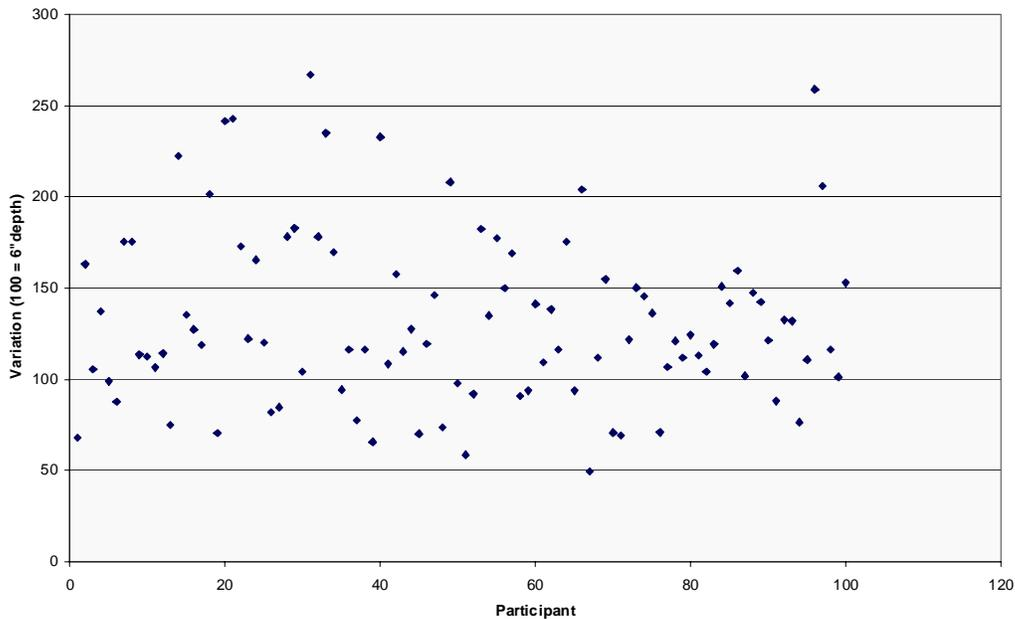

Figure 1. Variation in soil sample weight 15 cores to 6 inches.
Soil testing is the cornerstone of any fertility program. Soil test results help to estimating the availability of nutrients and the response to applied fertilizer. Having a history of fertility levels of a field can help determine the right rate. It is very important that the soil sample be taken correctly. In order for the sample to be useful, it must be taken so that is representative of the area being sampled. It also must be accurately taken so the test results can be properly interpreted. Soil sampling is the often the weakest link in the recommendation process. Because of the labor involved in sampling, the farmer or the agronomist will take short cuts that limit the usefulness of the sample. One common source of error is the sampling depth. Proper sampling depth for soil pH, organic matter (OM), phosphorus (P), potassium (K) and zinc (Zn) is the surface 6-8 inches since this is the depth that the soil tests were calibrated for in university research. Sampling deeper or shallower than this will provide misleading results. For available nitrogen (N), chloride (Cl) and sulfur (S), samples should be collected to 24 inches since these nutrients are mobile in soils. Figure 1 shows the variation of sampling depth when 100 participants were instructed to take 15 soil cores to a depth of 6 inches. The soils were then collected, weighed, and the percent variation was calculated. The results show a high degree of variability in the samples taken.